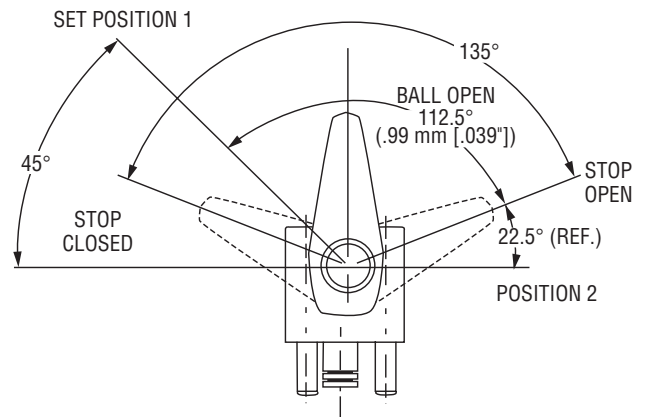

Figure A3 (8)
The manual control valve needs to be adjusted.	See “Manual Release/Automatic Release Valve Handle Setting” and Figure A3 in the “Service” section of this manual.
The manual control valve needs to be adjusted.	Adjust the handle. See “Manual Release/Automatic Release Valve Handle Setting” and Figure A3 in the “Service” section of this manual.
1. Thread in the shaft (62) until it just touches the check ball (55) (in its spring-loaded closed position).
2. Slide collar (104) on the shaft.
3. Position the handle (61) at the location "Position 1" (Figure A3), with the other surface of the handle flush with the end of the shaft. Lock in place.
4. Rotate the handle to "Position 2" (Figure A3).